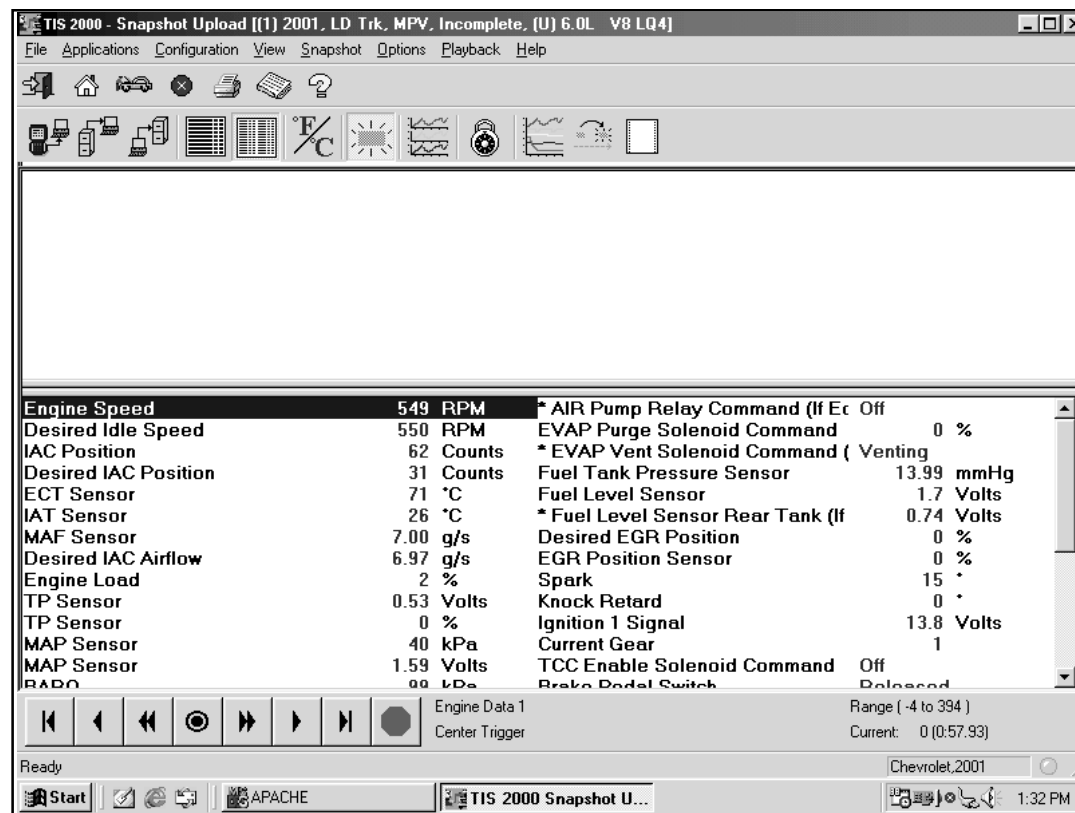

Figure I-69, No DTC Frame
4. When a frame is reached for which there is no DTC, the message **No Diagnostic Troubles for this data frame** will display in the DTC window or the DTC window will be blank (Figure I-69).